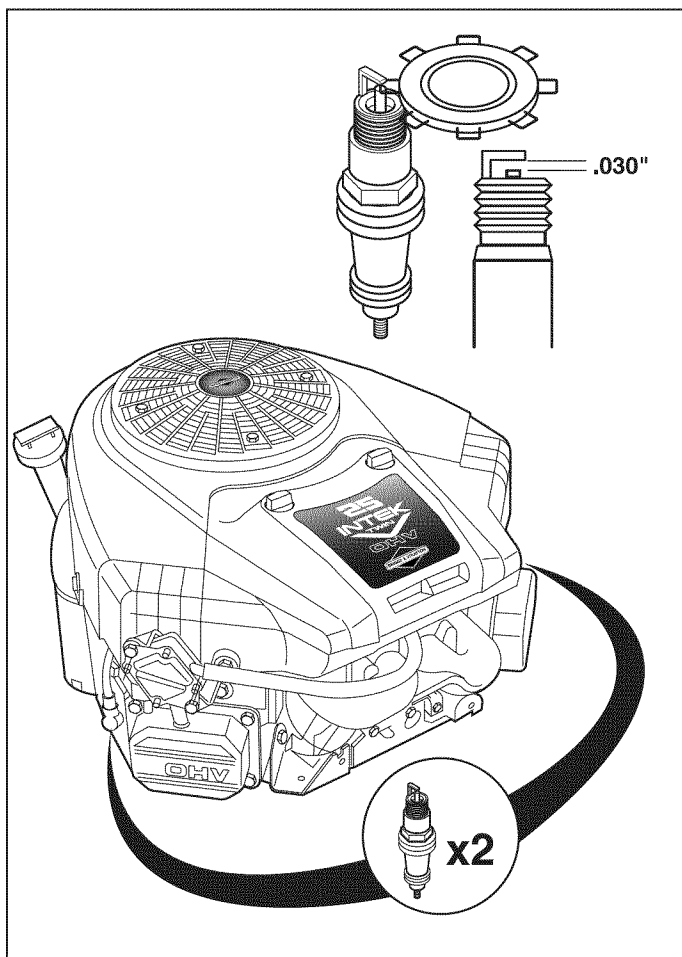

Figure 31. Spark Plug Gapping
2. See Figures 31 or 32. Clean the area around the spark plug.
4. Check the spark plug gap. It should be .030" (see Figure 31 or 32).